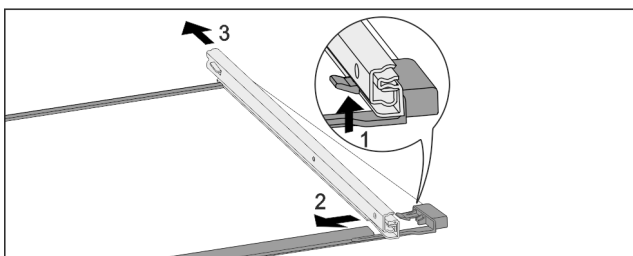

Fig. 168 Glass shelf with rails
- ▶ Push up front click-in hooks. Fig. 168 (1)
- ▶ Move the pull-out rails to the side Fig. 168 (2) and to the rear Fig. 168 (3).